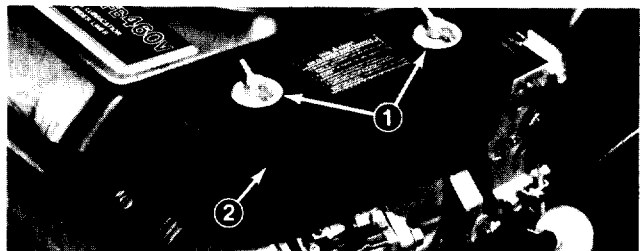

Figure 10
1. Remove (2) wing bolts and lift off air cleaner cover (Fig. 10).